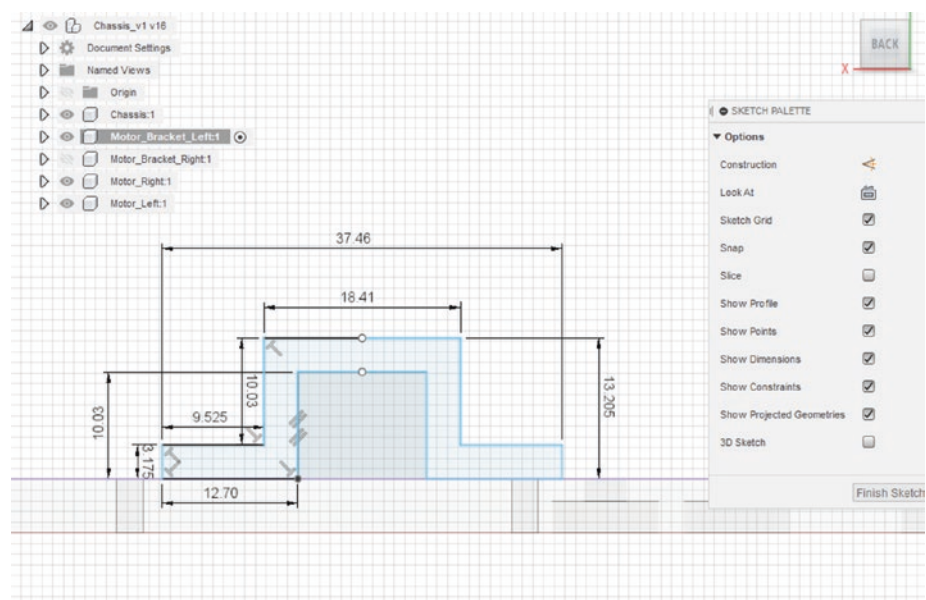

Figure 6-63. Create the outline of the left motor bracket
29. Use the line tool to create half of the bracket, and then use the mirror tool to create the second half of the bracket. Make sure it is fully enclosed. See Figure 6-63. Extrude this -16mm.